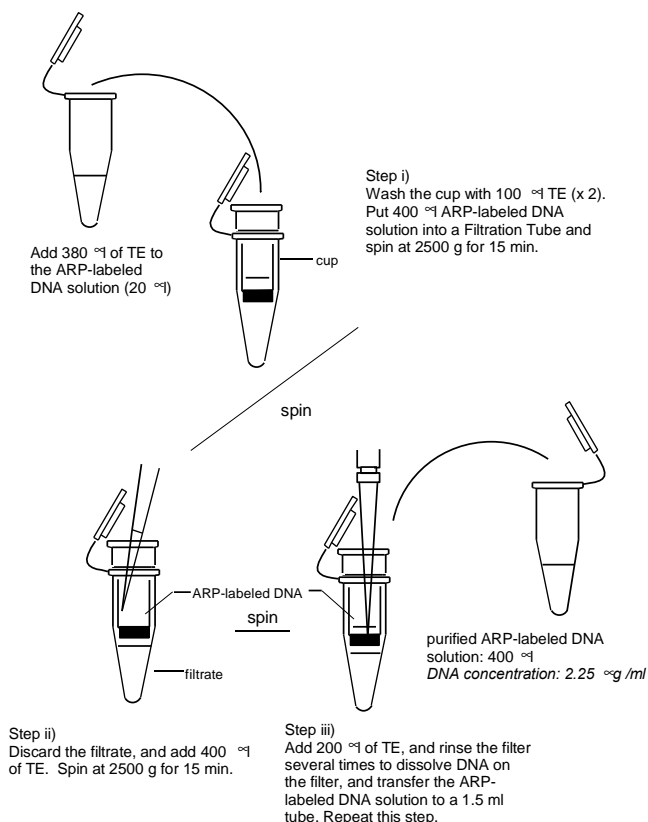

Figure 3. ARP-labeled genomic DNA purification Procedure
- 2) Wash the inside of the Filtration Tube cup with 100 μ l of TE twice (see Fig. 3).
- 3) Add 380 μ l of TE to the reaction solution, and transfer the solution to the Filtration Tube (see Fig. 3).¹⁾